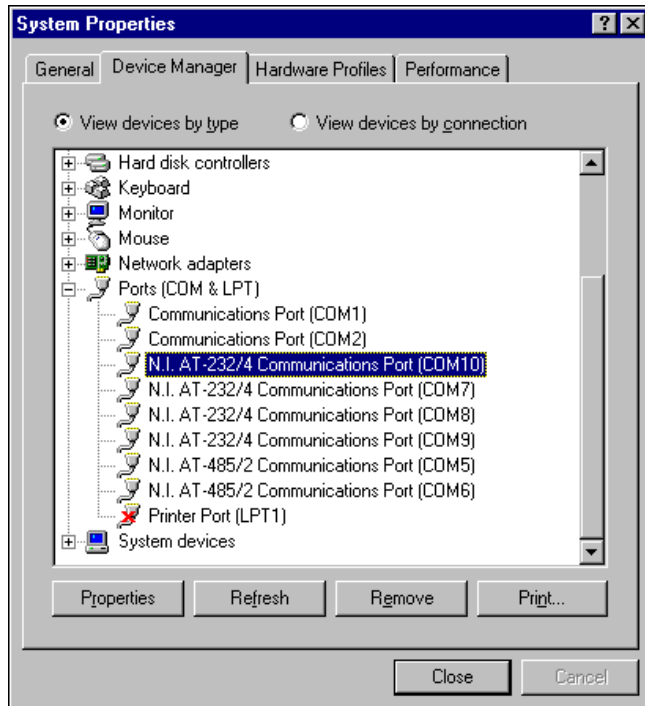

Figure C-1. Ports List in Device Manager
- Select a National Instruments port name from the list of ports that corresponds to a serial port (for example, COM 5, COM 6, COM 7, or COM 8). Figure C-1 shows the **Ports** list in the **Device Manager** with a port selected.